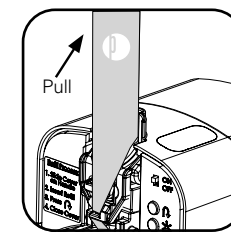

Figure 14
18. Pull the handle and release to advance the sleeve (repeat until sleeve is tight and ensure no jamming/binding). (Fig. 14)